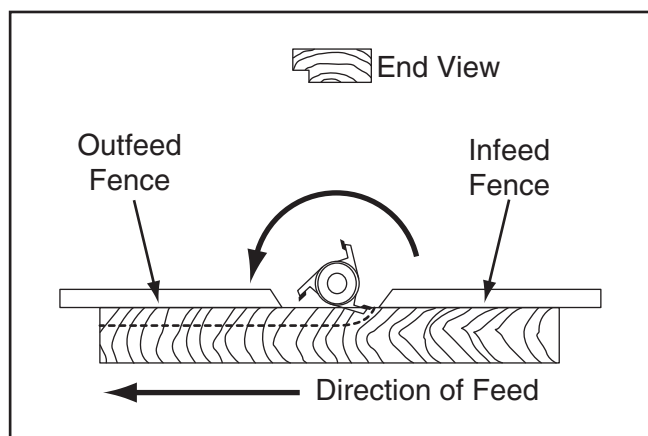

Figure 44. Partial feed fence adjustment.
5. Run a test piece through the shaper (see **Figure 44**).